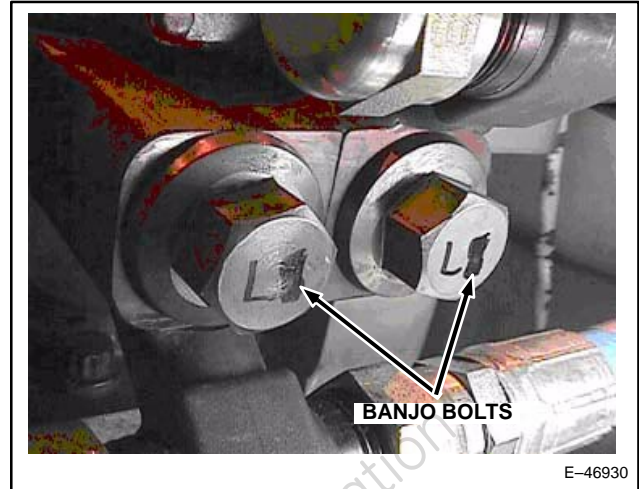

Figure 39. Banjo Bolts.
- Tighten each Banjo bolt snugly (a few lbs.-ft. of torque) so that the O-rings become compressed. Torque the banjo bolts to 60 lbs.-ft. (81 Nm) as shown in Figure 39.